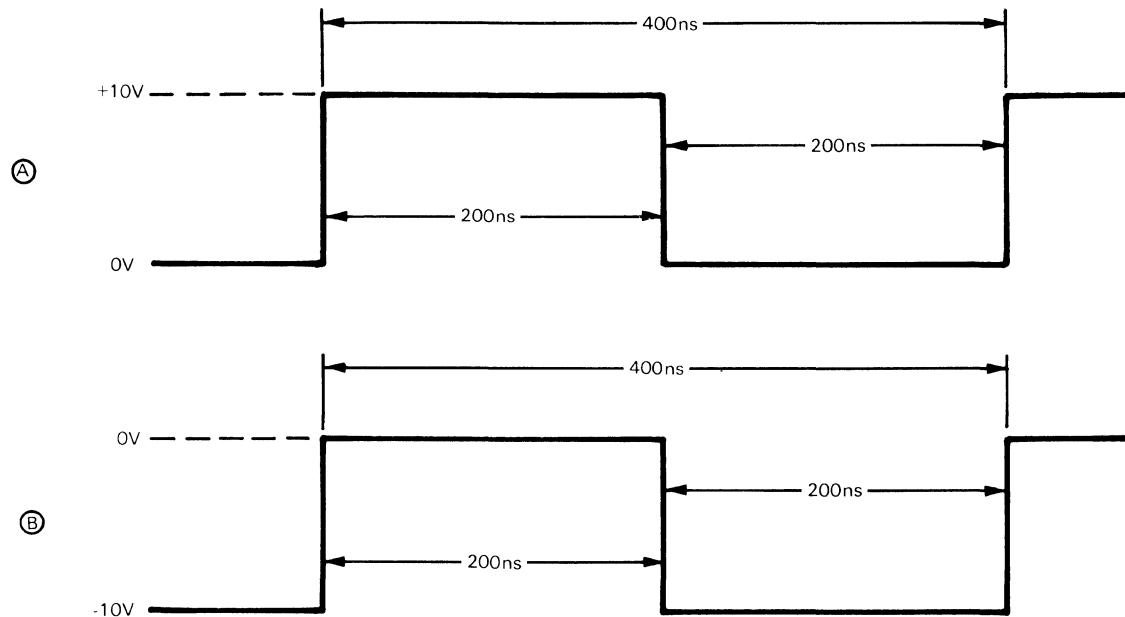

Figure 4-6. Input Threshold Range Test Waveform
- c. Adjust pulse generator for output waveform A as shown in figure 4-6.
- f. Adjust pulse generator for output waveform B as shown in figure 4-6.
- o. Adjust pulse generator for output waveform A as shown in figure 4-6.